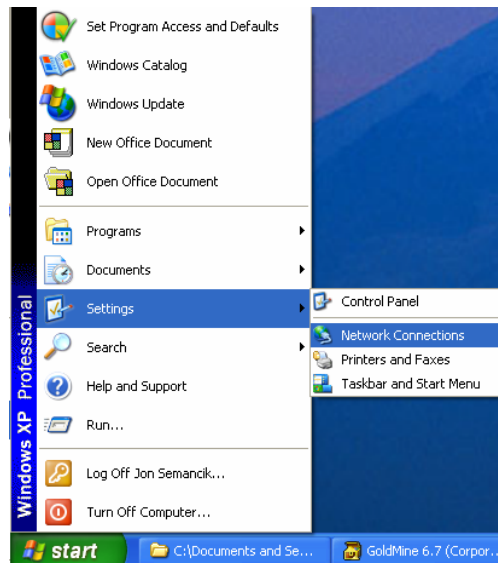

FIGURE 1-2: NETWORK CONNECTIONS SHORTCUT
- a) Click **Start** → **Settings** → **Network Connections** (see Figure 1-2).